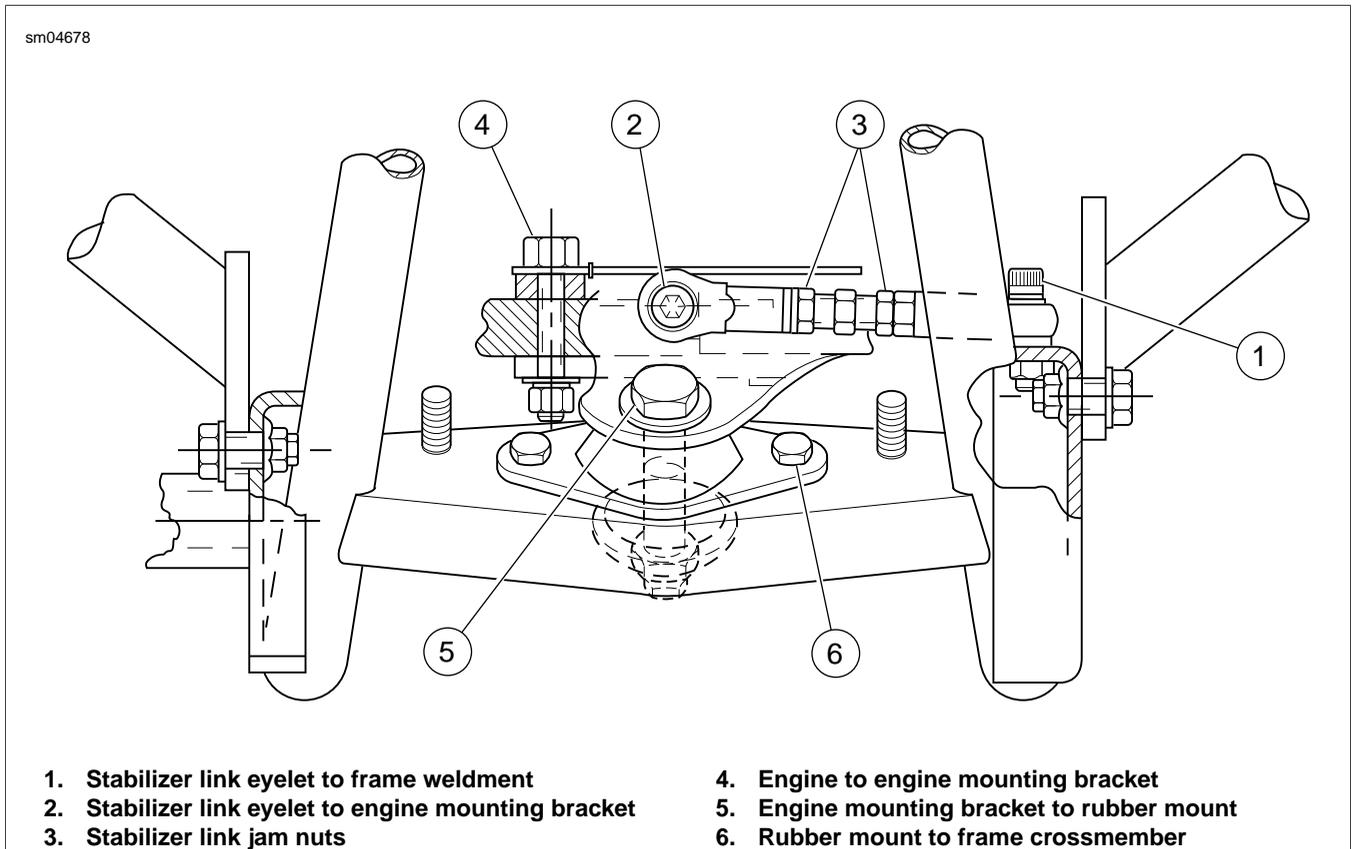

Figure 2-38. Front Engine Mount
- b. Tighten two engine to front engine mounting bracket bolts to 36-40 ft-lbs (49-54 Nm). See (4) of Figure 2-38.
- c. Tighten front stabilizer link eyelet to front engine mounting bracket bolt to 18-22 ft-lbs (24-30 Nm). See (2) of Figure 2-38.
- d. Loosen both front stabilizer link jam nuts. See (3) of Figure 2-38.
- e. Remove front stabilizer link eyelet to frame weldment bolt. See (1) of Figure 2-38.
- f. Remove the front engine mounting bracket to rubber mount bolt (with large and small flat washers and hex nut). See (5) of Figure 2-38.
- a. Loosen the two front rubber mount to frame cross-member bolts. See (6) of Figure 2-38.
- a. Tighten the two front rubber mount to frame cross-member bolts to 15-20 ft-lbs (20-27 Nm). See (6) of Figure 2-38.
- b. Install front engine mounting bracket to rubber mount bolt (with large and small flat washers and hex nut) and tighten to 15-20 ft-lbs (20-27 Nm). See (5) of Figure 2-38.
- c. Tighten front stabilizer link eyelet to frame weldment bolt to 18-22 ft-lbs (24-30 Nm). See (1) of Figure 2-38.
- d. Tighten front stabilizer link eyelet to front engine mounting bracket bolt to 18-22 ft-lbs (24-30 Nm). See (2) of Figure 2-38.
- e. Remove the front engine mounting bracket to rubber mount bolt (with large and small flat washers and hex nut). See (5) of Figure 2-38.
- a. Loosen the two front rubber mount to frame crossmember bolts. See (6) of Figure 2-38.
- a. Tighten the two front rubber mount to frame crossmember bolts to 15-20 ft-lbs (20-27 Nm). See (6) of Figure 2-38.
+/- 1/2 degree. See Figure 2-38. If vertical alignment exceeds specification, proceed as follows: